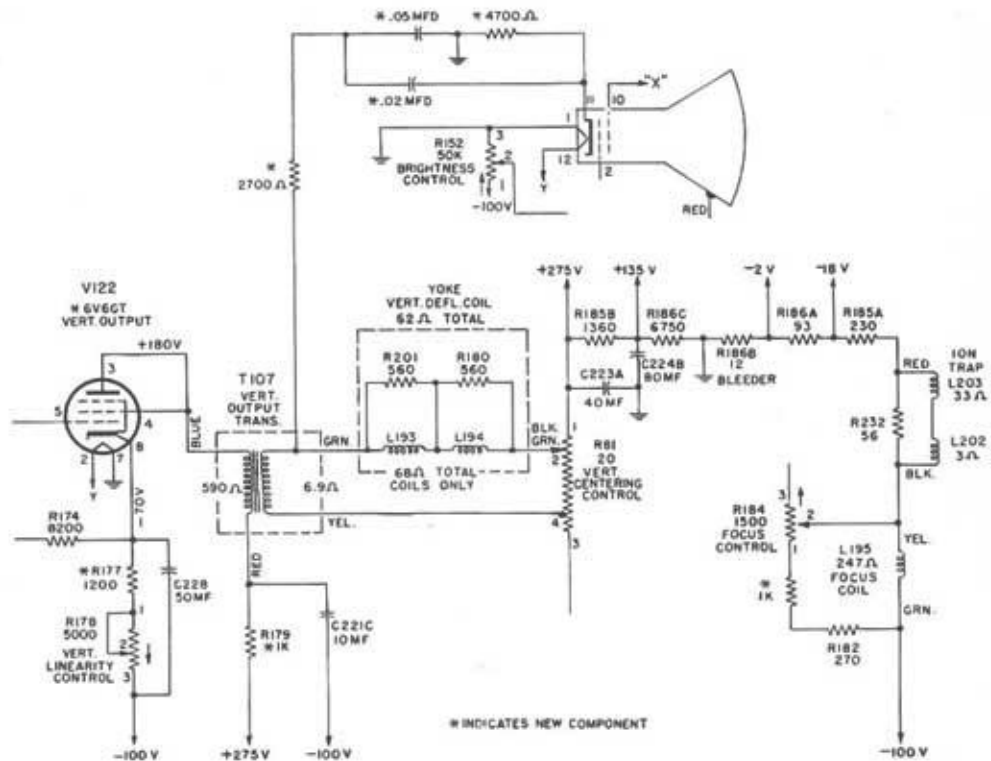

Figure 5. Vertical output circuit showing the conversion changes plus the vertical retrace elimination circuit.
13. The 2700-ohm resistor R177 in the cathode circuit of the vertical output tube was removed and replaced with a 1200-ohm one-watt resistor as shown in Figure 5.
15. The vertical retrace elimination circuit which consists of two resistors, one 2700-ohm and one 4700-ohm, and two capacitors, one .02 mfd and one .05 mfd, was connected between the vertical output transformer and the cathode of the picture tube as shown in Figure 5. The cathode lead which was originally connected to the chassis was removed and the 4700-ohm resistor connected between this point and the chassis. The value of this resistor can be increased if any evidence of retrace lines remain.
16. The 1800-ohm resistor R183 across the focus coil was removed and a 1000-ohm resistor was inserted between the focus control R184 and R182 as shown in Figure 5.